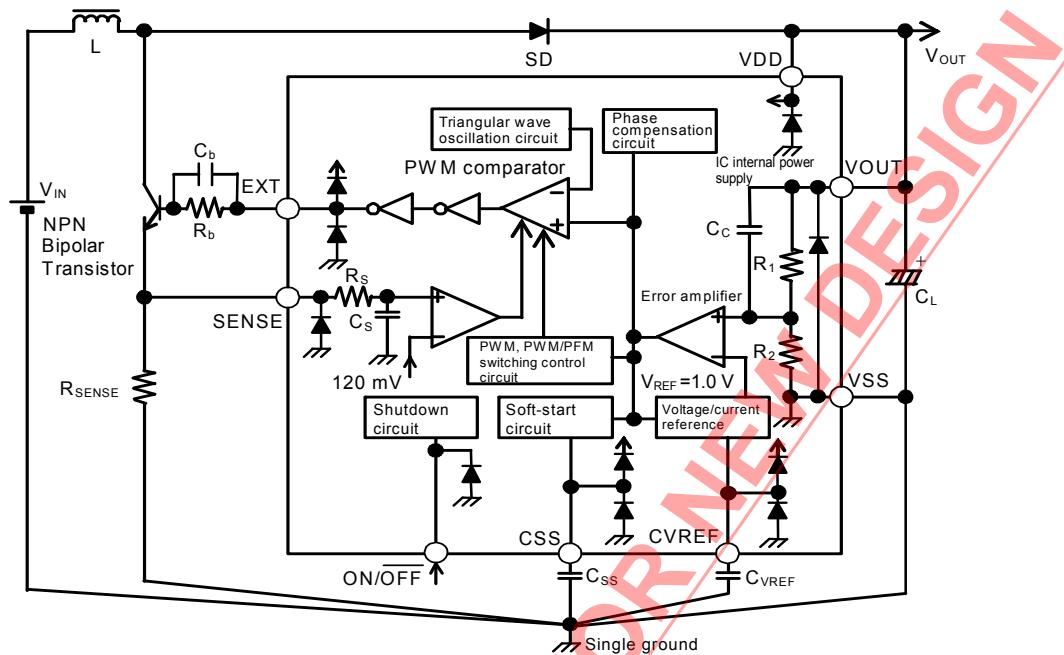

Figure 16 Output Voltage Fixed Output Type
Figures 16 and 17 in “■ Standard Circuits (2) Using Bipolar Transistors” show sample circuit diagrams using Sanyo Electric Co., Ltd. 2SD1628G for the bipolar transistor (NPN). The driveability for increasing the output current by means of a bipolar transistor depend on the h_{FE} and R_b values of that bipolar transistor.
In addition, if a speed-up capacitor (C_b) is inserted in parallel with the resistance (R_b) as shown in Figures 16 and 17, the switching loss will be reduced, leading to a higher efficiency.